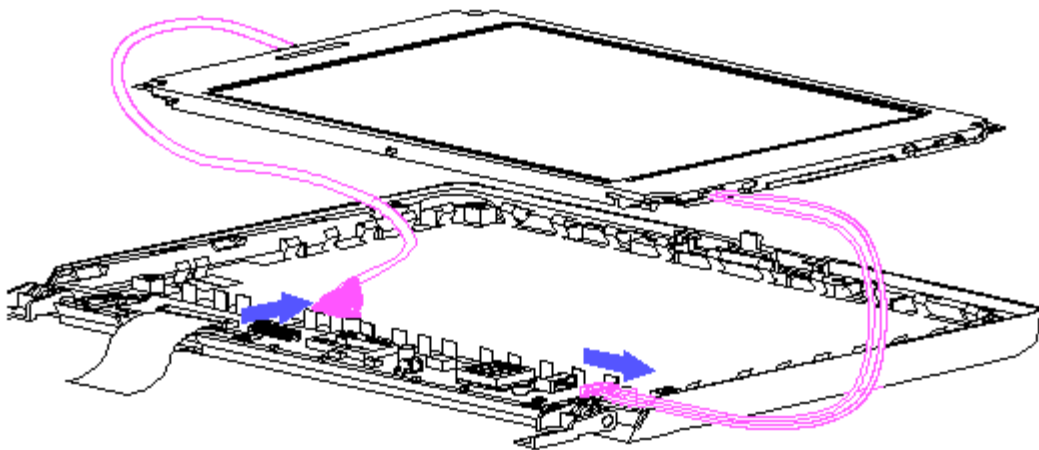

Figure 2-21. Disconnecting Backlight Power Cable and Signal Cable
4. Disconnect the backlight power cable and signal cable (Figure 2-21).
2. Disconnect the backlight power cable and the signal cable (Figure 2-21).